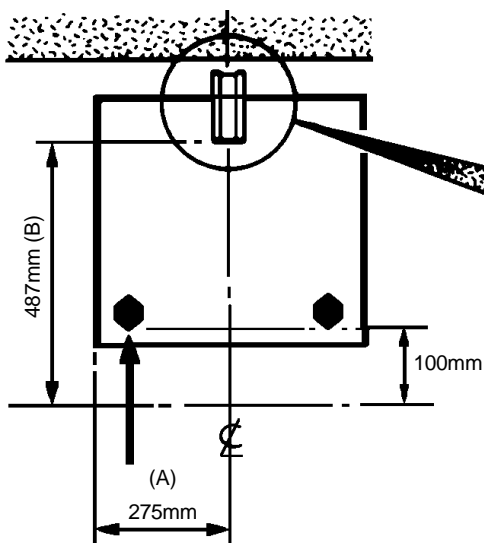
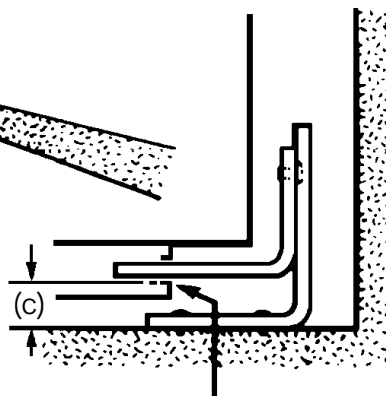

Fig.2a
Fig.2b
2. Mark off 275mm from the left hand side of the appliance as shown in dimension 'A', Fig 2a. This is the centre line of the fixing bracket.
3. Draw a line 100mm from the front edge of the levelling feet (see Fig.2a) and remove appliance from its position. Mark off dimension 'B' (see Fig.2a) back from this line on the centre line of the bracket to locate the front edge of the lower bracket. Fix lower bracket (with two fixing holes) to the floor then measure the height from floor level to engagement edge on back of appliance, dimension 'C' of Fig.2b.
Reposition appliance and check that top bracket engages into appliance back as shown in Fig. 2b.